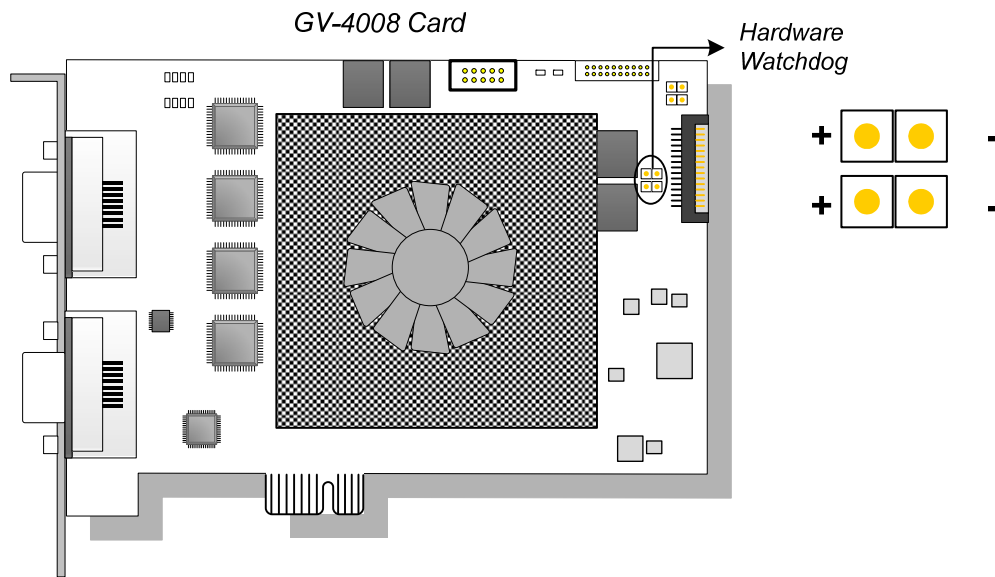

Figure 1-2
- **Hardware Watchdog Connection:** Connect the supplied Hardware Watchdog Jump Wire to the Master Card. For correct connection, see *Figure 1-2*